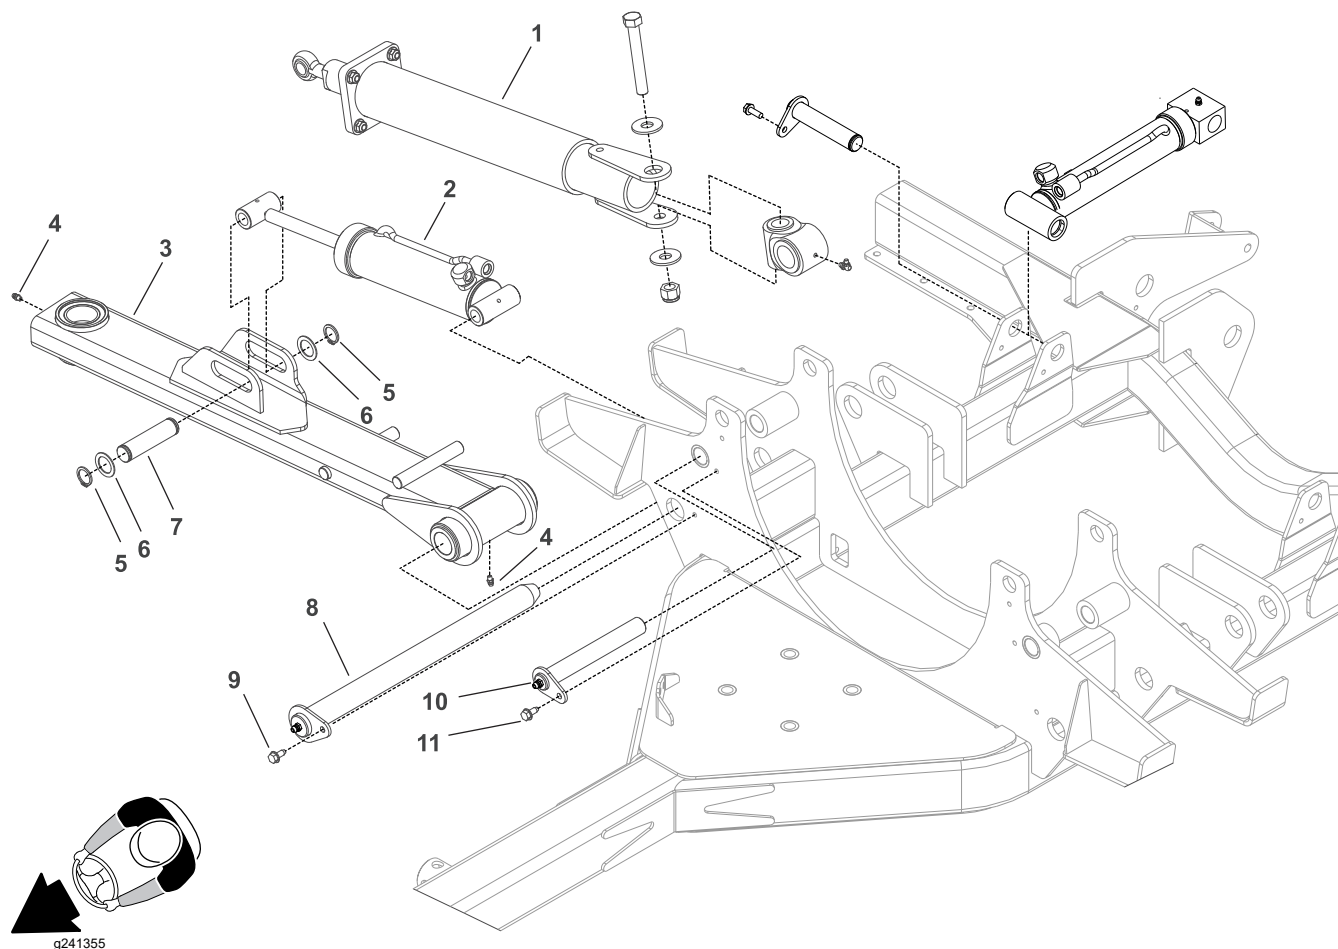

Figure 28
Note: Refer to Figure 28 during this procedure.
Note: To ease assembly, label all hydraulic hoses prior to disassembly to identify their correct position on the lift cylinder (item 2 in Figure 28).
4. Remove the snap rings (5), washers (6) and pin (7) that secures the lift cylinder (2) to the lift arm assembly (3).
5. Remove the bolt (11) that secures the lift cylinder pin assembly (10) to machine frame and remove the lift cylinder pin assembly (10).
6. Remove the lift cylinder (2) from the machine.